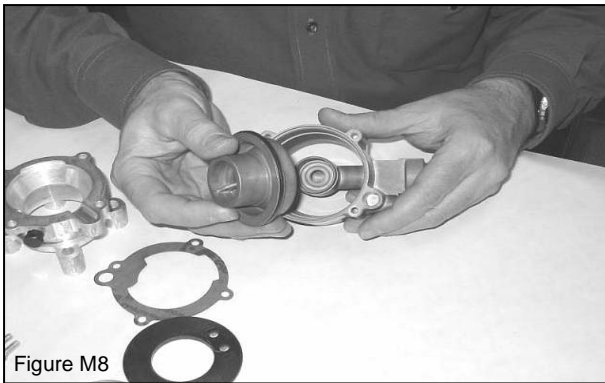

Figure M8
5. Insert the air valve assembly into the main body (Figure M8).